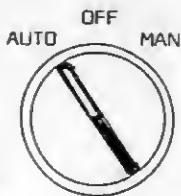

Fig. 3 Carbon Fill Selector
a. After ensuring that there is sufficient carbon in the loaded carbon surge hopper, switch the valve control switch (See fig. 3) to 'auto' to open the valve.